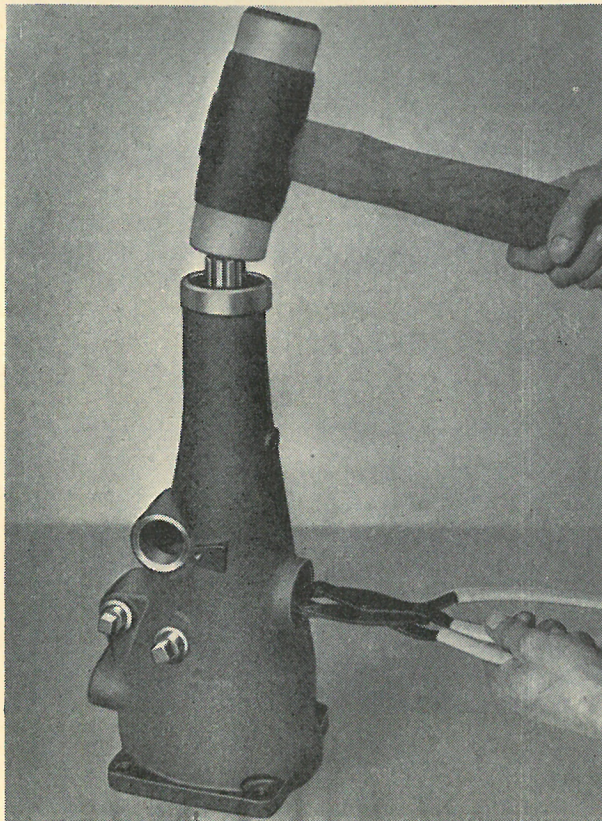

Fig. FF.20.
4. To remove the output shaft from the housing, take out the expansion plug to obtain access to the circlip, and expand the snap ring with suitable pliers. The shaft and bearing will then tap out easily from the rear (see Fig. FF.20).